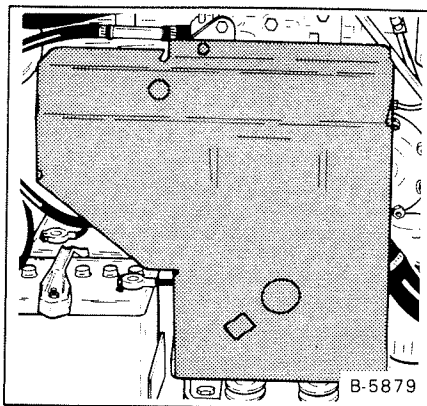

Fig. 6-4 Removing Shield
- (1) Stop the engine. Remove shield (Fig. 6-4).